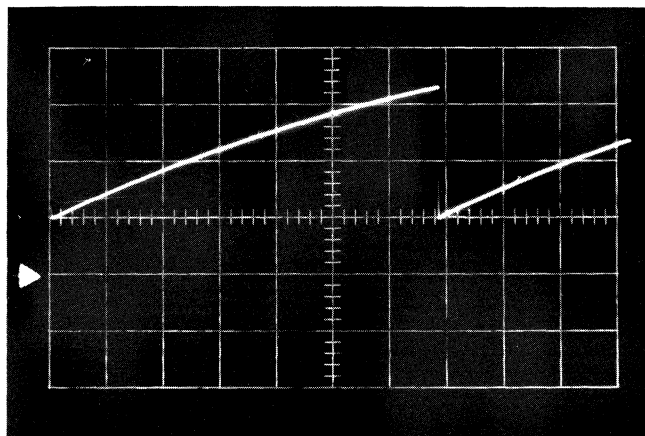

Fig. 9-1. Input VPG Rate Unijunction
8. Trigger the scope internal, auto, negative except for the VPG waveshapes figures 9-1, 9-2, 9-3, 9-4 and 9-5. For VPG, connect trigger lead to pin H on Card 8. Trigger the scope external-DC-negative.